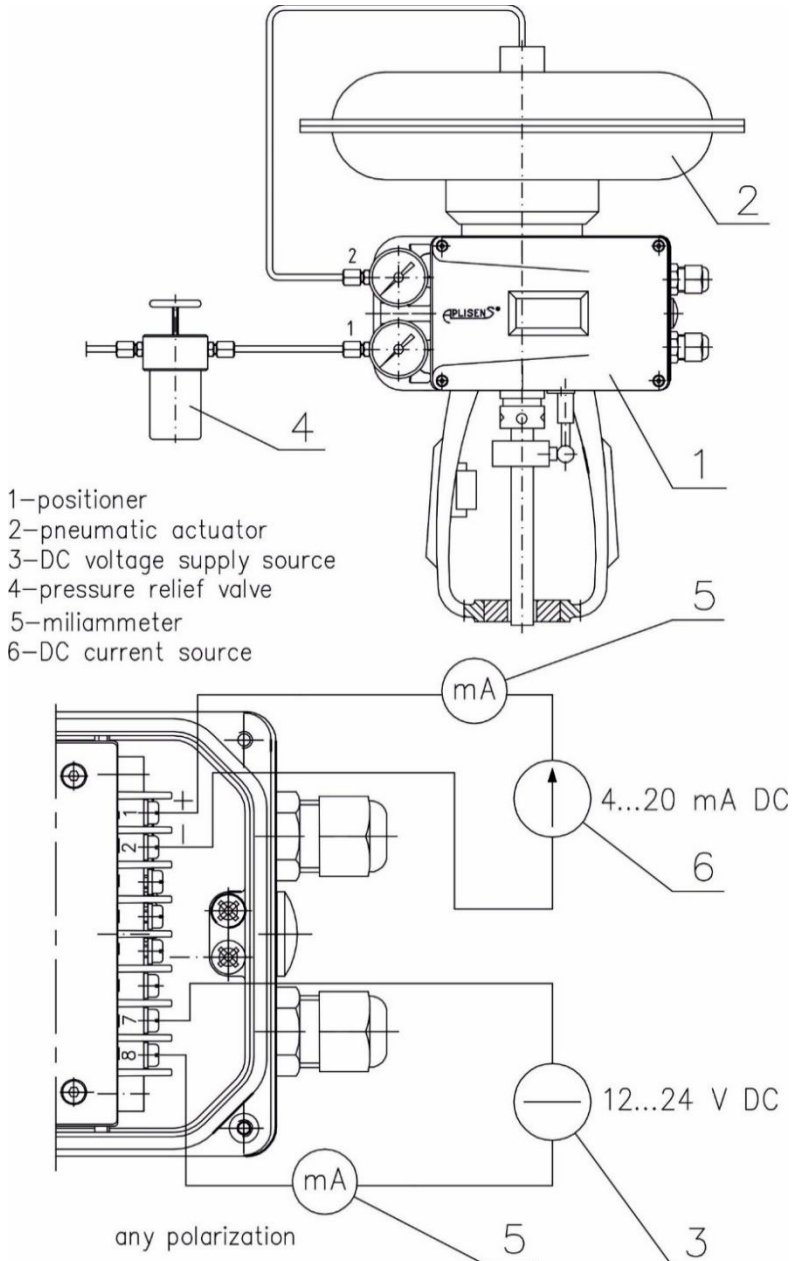

Fig. 17. Diagram of measuring circuit for starting APIS-1X0... positioner (single-acting membrane actuator)
- a) Positioner APIS-1X0... installed on the actuator acc. to point 10.2...10.4. should be connected with the measuring system acc. to the diagram presented in Fig. 17.
- e) Current programming device item 6 – e.g.: Fig. 17 decrease input signal to 4 ± 0.01 mA DC; the following will appear on the display e.g.: